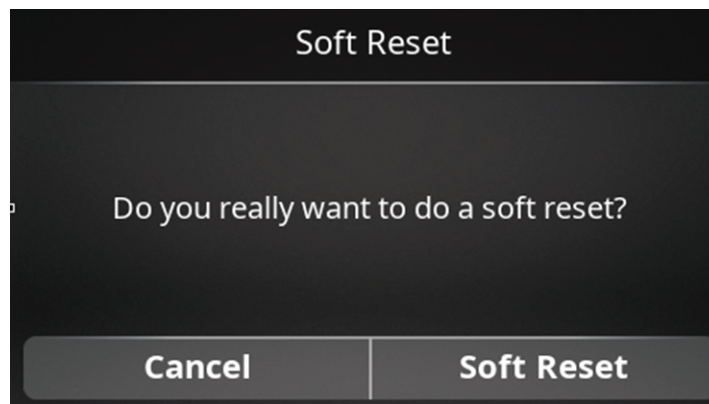

Figure 10 – Soft reset screen
2. Press **Soft Reset** to reset the bed configuration (Figure 10).